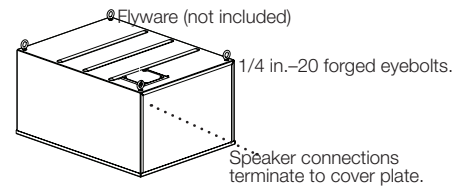

Fig. 2: Suspended into Rigid or Tile Ceiling
- 2). SUSPENDED INTO RIGID OR TILE CEILING (Fig. 2): Hang the system using the installed forged eyebolts and flyware (by others) so that it is suspended into a rigid or tile ceiling.